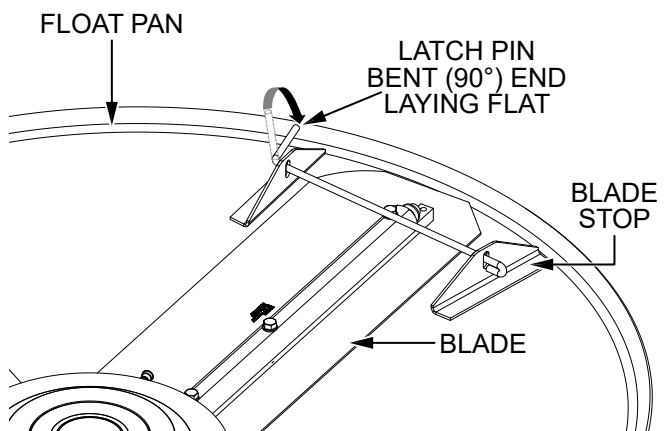

Figure 91. Latch Pin Placement
4. After it has been routed through the blade stop holes, rotate the latch pin so the end that is bent approximately 90 degrees lays flat on the surface of the float pan. See Figure 91.